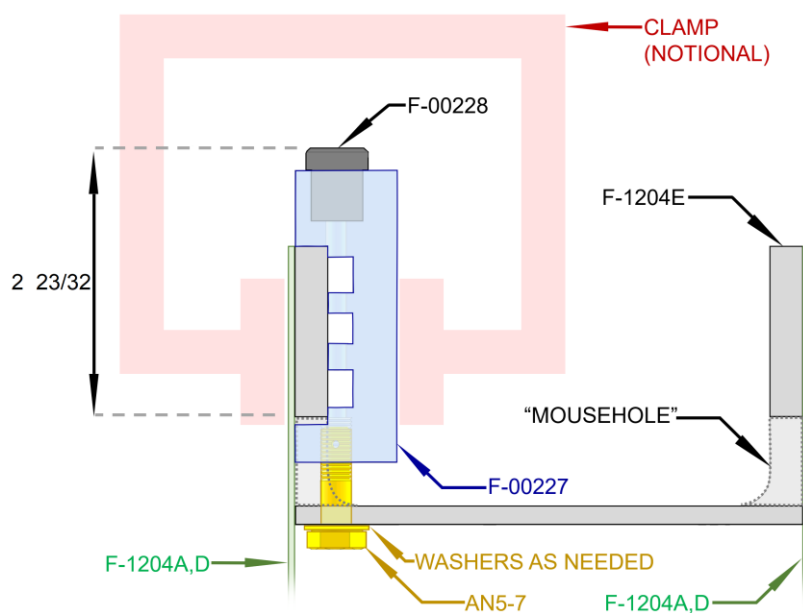

FIGURE 5: CROSS-SECTION SHOWING LOCATION OF F-00227 AND F-00228
Step 16: Place an F-00227 Drill Guide on the F-1204E Landing Gear Beam as shown in Figure 5. The end with the larger (non-threaded) hole faces upwards. The end with the smaller (threaded) hole faces downwards and fits into one of the four “mouseholes” on the F-1204E. The side with three horizontal grooves contacts the inner vertical surface of the F-1204E.
NOTE: Per Figure 5, the depth of the hole is 2 23/32 in. [68.6 mm] including the F-00228 bushing. This means that the drill bit must be at least 2 23/32 in. [68.6 mm] long. Mark this distance from the tip of the drill bit using tape or a sharpie so that it is clear when the drill bit is about to reach the top of the “mousehole”.